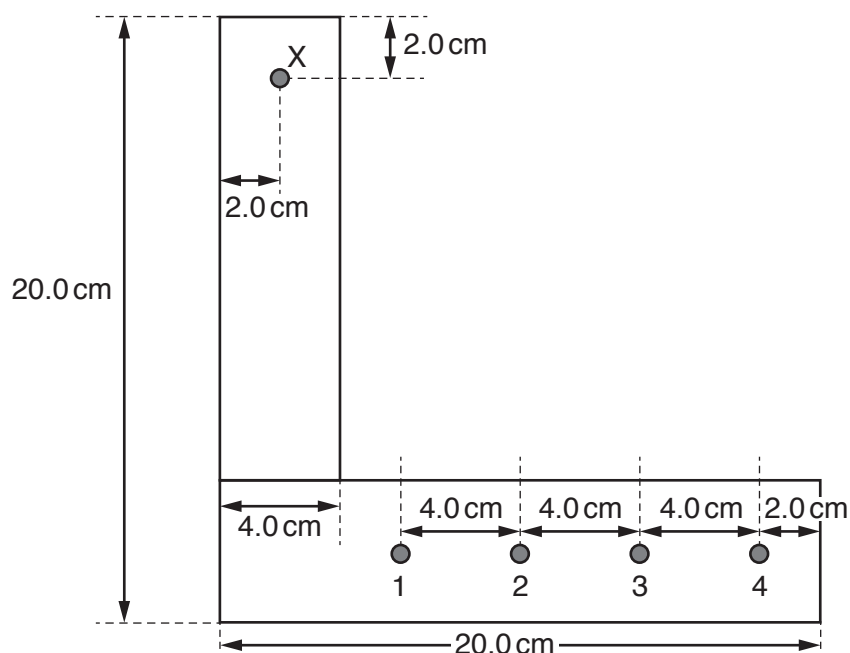

Fig. 3.1 (not to scale)
1. The L-shaped beam should be made by joining together two pieces of wood (20.0 cm x 4.0 cm x 1.0 cm) as shown in Fig. 3.1. Wood glue is a suitable adhesive.
Four 5 mm diameter holes should be drilled along the centre of one arm of the beam starting at 2.0 cm from the right hand vertical end of the wood and then every 4.0 cm. These holes should be labelled 1 to 4 as shown in Fig. 3.1.